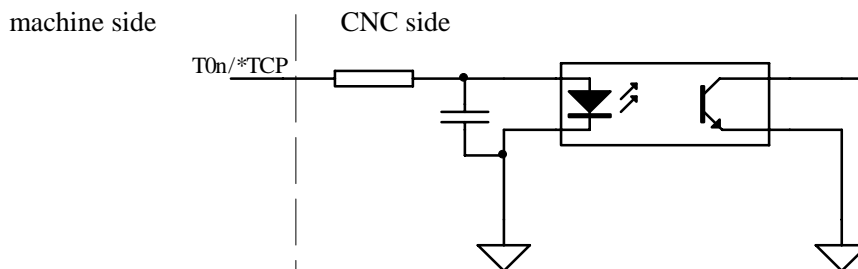

Fig.2-37
1. The optocoupler is used for T01~T08 and TCP, the inside circuit as fig.2-37: